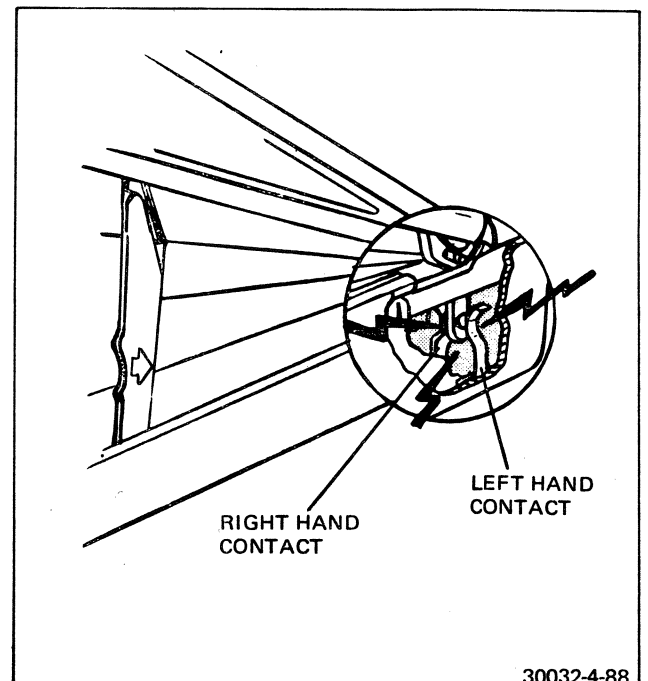

FIGURE 4-88 SWITCH S6 DETAILS
- n. Unsolder and disconnect the two S6 contacts (Figure 4-88).